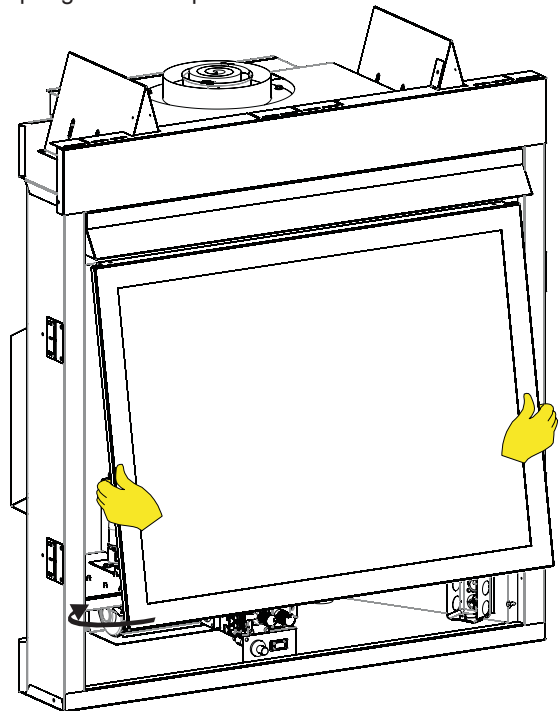

Figure 7
2. Gently lower the glass frame into place. See Figure 7 for proper glass frame placement.